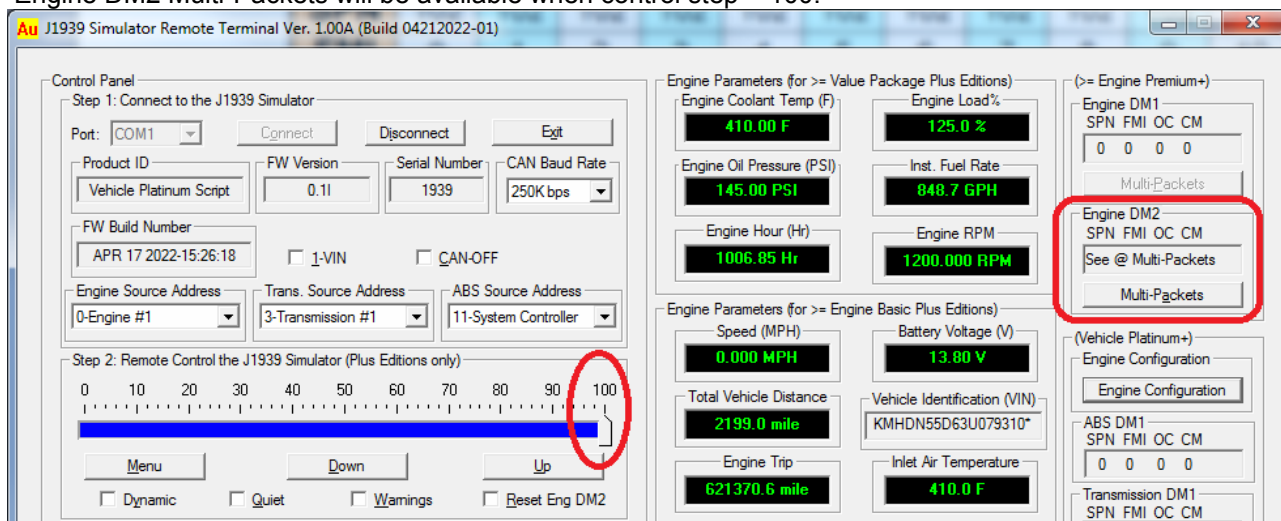
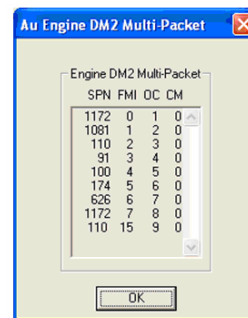

Figure 4-16
Figure 4-17
- If engine DM2 is a multi-packet, "see @ Multi-Packets" will display, "Multi-packets" button will be active (Figure 4-16), Click on it, the whole list of engine DM2 will display (Figure 4-17).